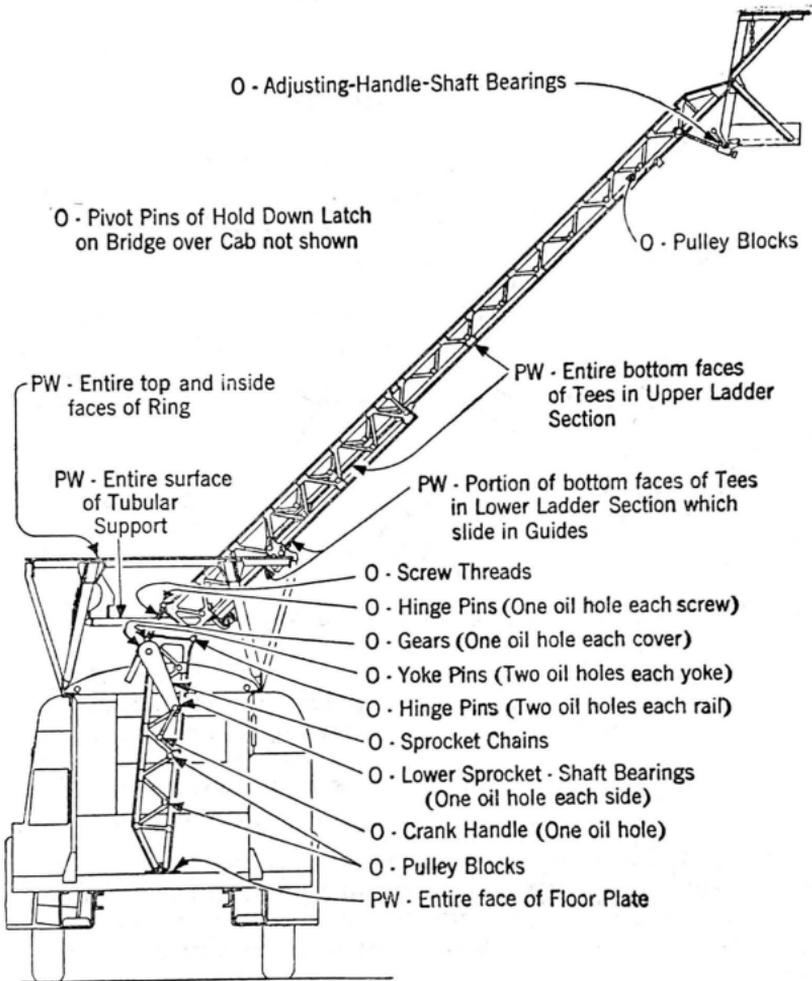

Fig. 3
3.01 Lubricate all points indicated on the lubrication chart, Fig. 3. Points indicated by an "O" are lubricated with automobile engine oil at least once a week. Points indicated by a "PW" are lubricated with splicers' or similar paraffin wax whenever required to obtain the desired freedom of action.